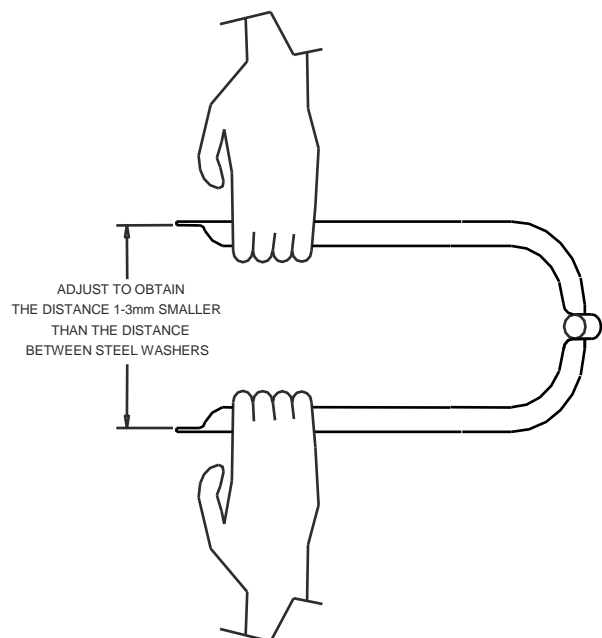

Figure 3 Manual adjustment of the fork's width
D) Bicycles have different dropout spacing as measured from the outside of one rear fork arm to the other. The Maya Cycle fork fits best on bicycles where the exterior flat surfaces of the bicycles rear fork arms are between 140mm and 165mm. Adjust the fork's width as shown in Figure 3.